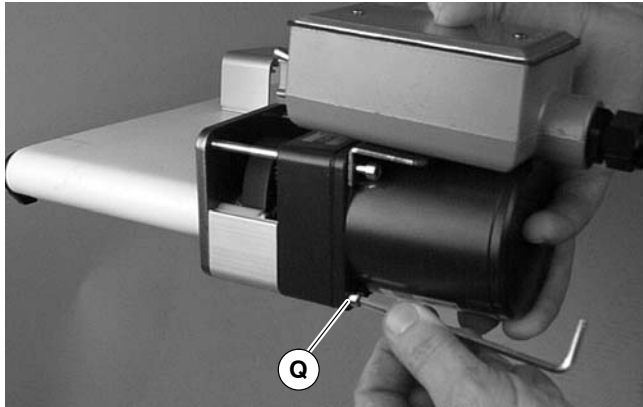

Figure 13
6. Insert gearmotor drive pulley into timing belt. Mount assembly with two (2) bottom screws (Q of Figure 13). Tighten to 45 in-lb (5 Nm).